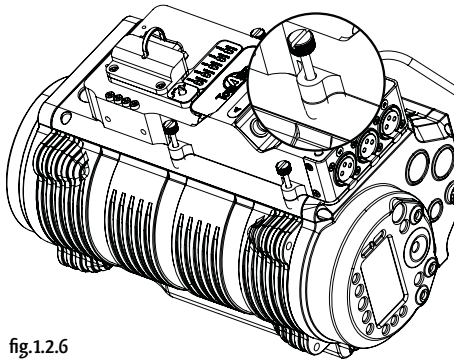

fig.1.2.6
6- Align the panel with the camera (*see fig.1.2.6*). Secure the panel to the camera with the four (4) thumbscrews, threading them into the same holes where the hex screws were previously removed. **DO NOT OVER TIGHTEN THEM.** It is recommended to lay the camera on its left side when performing this procedure. **NEVER INSTALL THUMBSCREWS WITHOUT THE PROVIDED SPACER.** Contact ASL Gear immediately for spare parts.